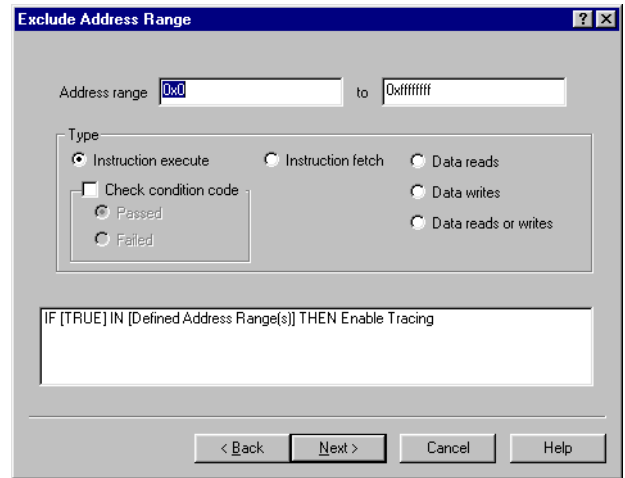

Figure 8-56 Excluded Address Range dialog box
8. Click on **Next>**. The Excluded Address Range dialog box shown in Figure 8-56 is displayed.